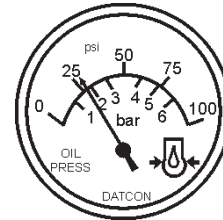

Figure 46. Oil Pressure Gauge
- The engine **oil pressure gauge** (Figure 46) will indicate the oil pressure of the engine. Under normal operating conditions the oil pressure is approximately 28 to 71 psi. (193~490 kPa).